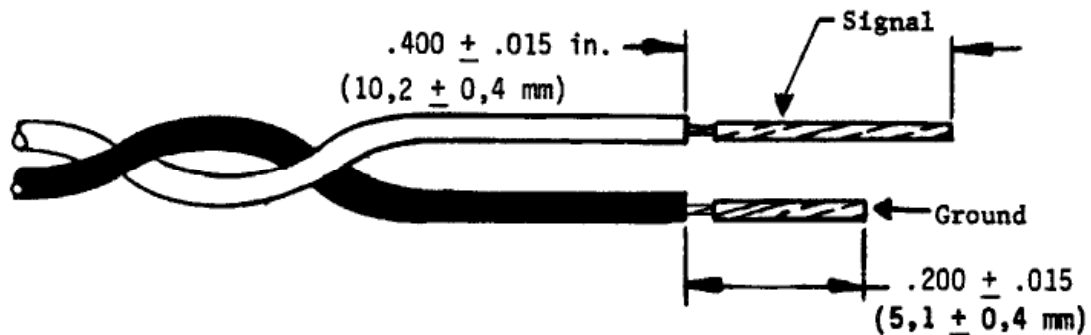

Figure 5-11
10. Trim the signal and ground conductors as shown in Figure 5-11.